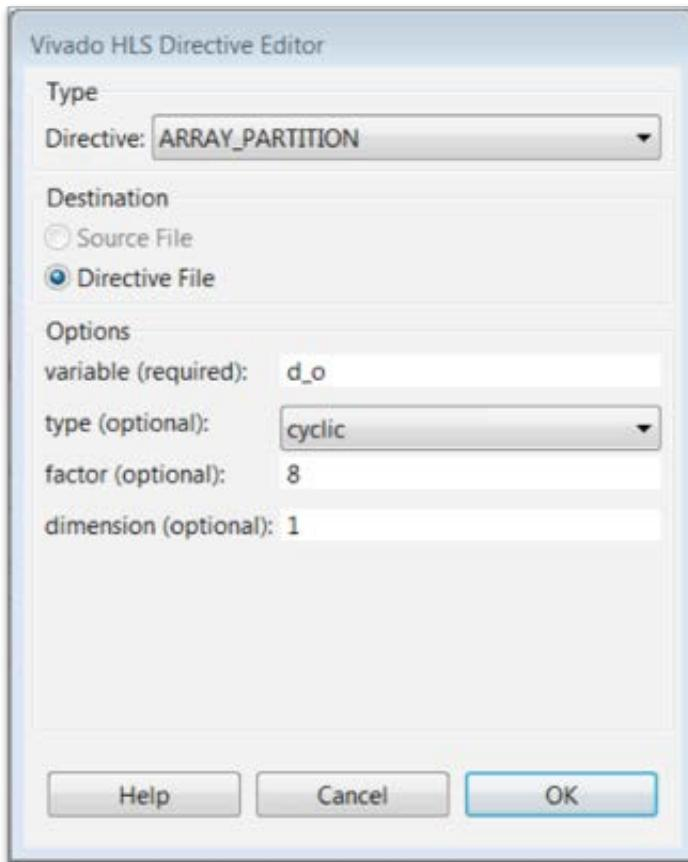

Figure 86 Directives Editor for Cyclic Partitioning
- d. With the Directives Editor as shown in Figure 86, press OK.